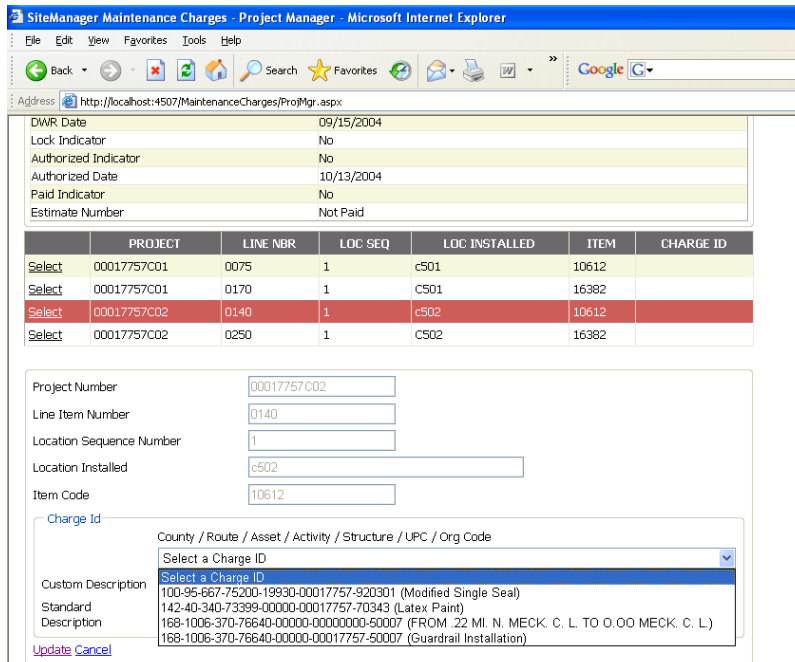

Figure 17
Step 4: From the dropdown list Select the Charge ID. Once selected, Custom Description and Standard Description associated with the Selected Charge get populated. (Figure 17)